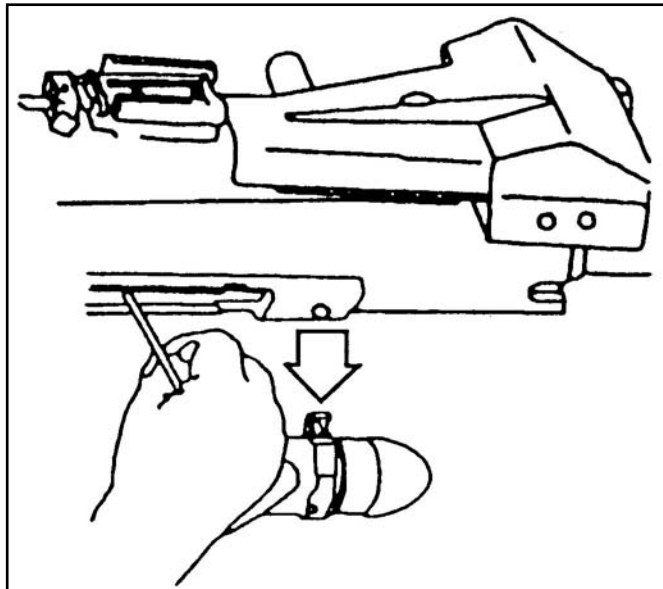

Figure 071-030-0006-1. Removal of round or spent case
1. Place the safety switch on the safe (S) position.
- a. Insert the tip of a cleaning rod through the right hand rail as close to the bolt face as possible (figure 071-030-0006-1).